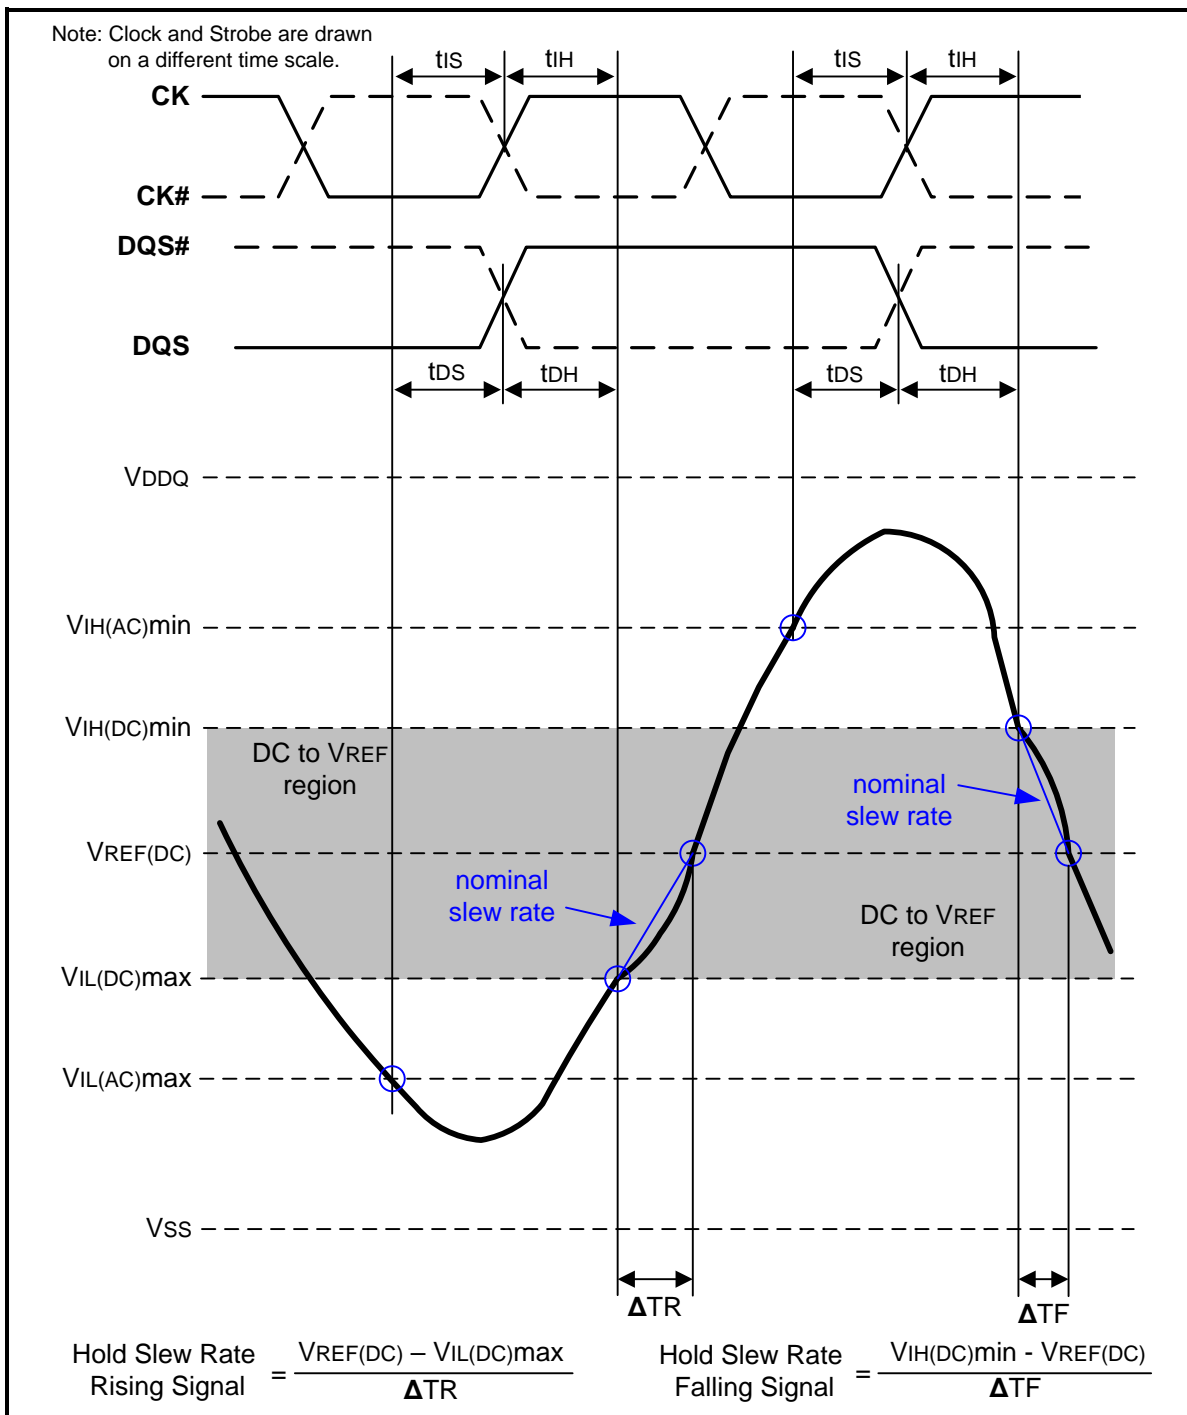
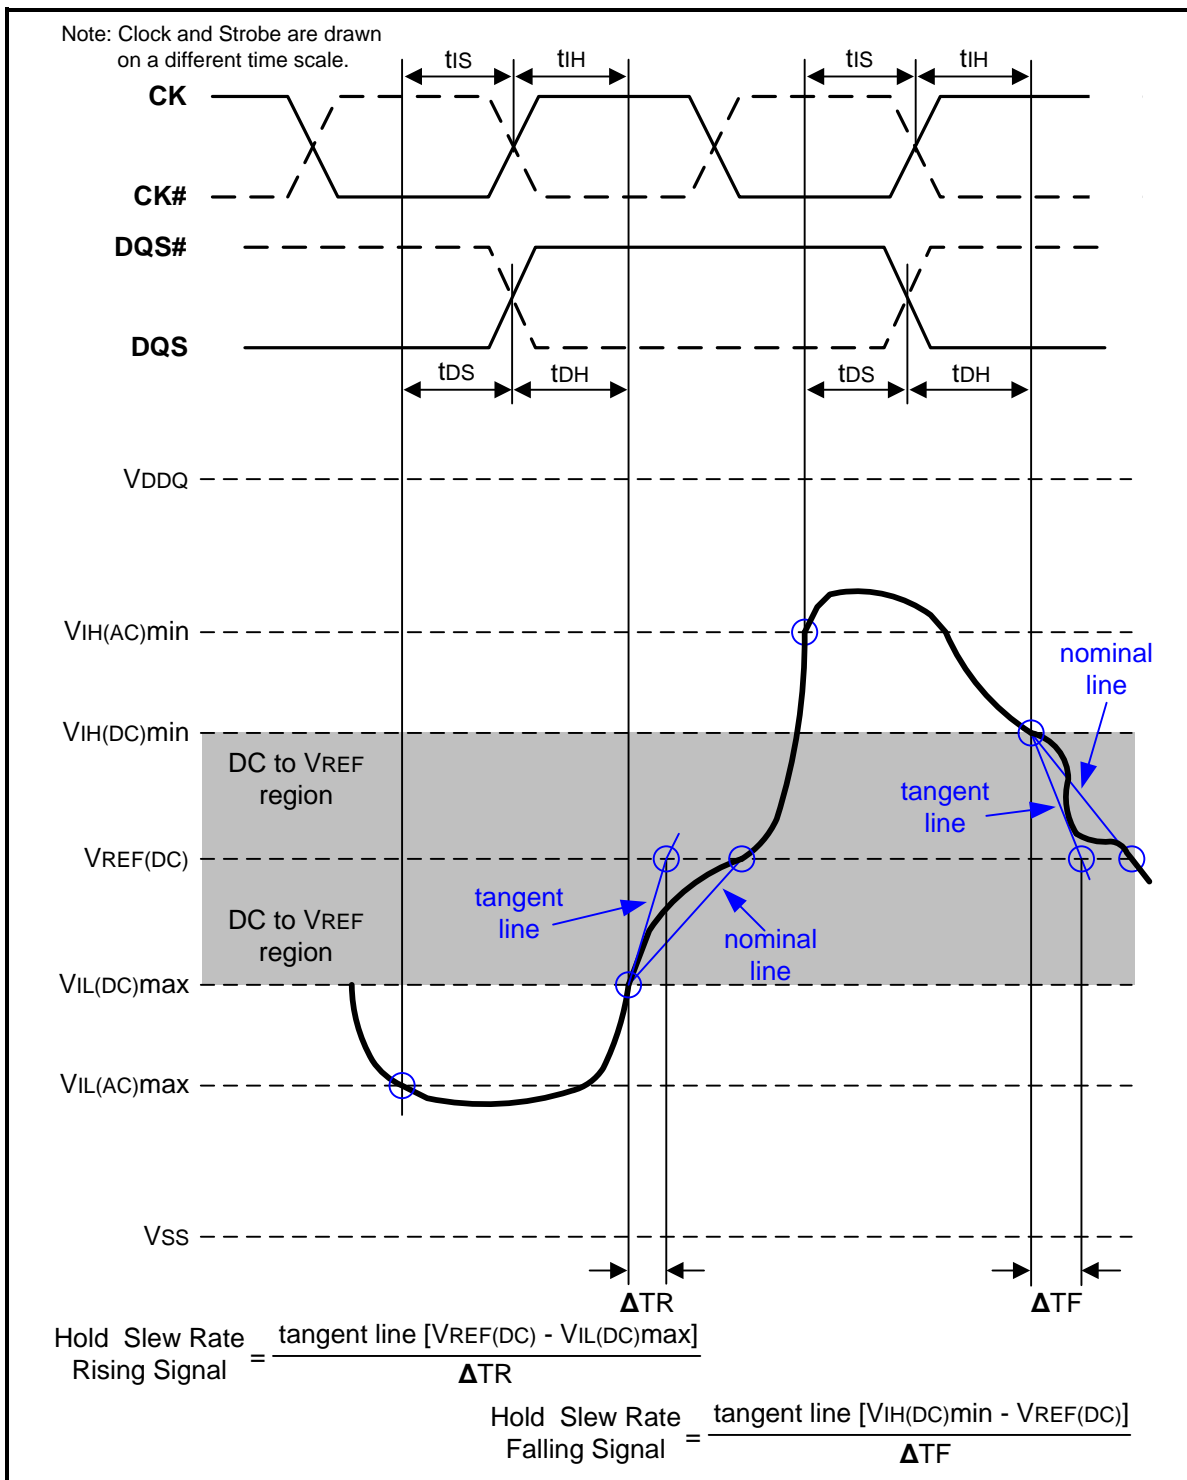

Figure 108 – Illustration of nominal slew rate for hold time t_{DH} (for DQ with respect to strobe) and t_{IH} (for ADD/CMD with respect to clock)
Figure 110 – Illustration of tangent line for hold time tDH (for DQ with respect to strobe) and tIH (for ADD/CMD with respect to clock)
Hold (t_{IH}) nominal slew rate for a rising signal is defined as the slew rate between the last crossing of $V_{IL}(\text{DC})_{\text{max}}$ and the first crossing of $V_{REF}(\text{DC})$. Hold (t_{IH}) nominal slew rate for a falling signal is defined as the slew rate between the last crossing of $V_{IH}(\text{DC})_{\text{min}}$ and the first crossing of $V_{REF}(\text{DC})$. If the actual signal is always later than the nominal slew rate line between shaded 'DC to VREF(DC) region', use nominal slew rate for derating value (see Figure 108). If the actual signal is earlier than the nominal slew rate line anywhere between shaded 'DC to VREF(DC) region', the slew rate of a tangent line to the actual signal from the DC level to $V_{REF}(\text{DC})$ level is used for derating value (see Figure 110).
Hold (tDH) nominal slew rate for a rising signal is defined as the slew rate between the last crossing of VIL(DC)max and the first crossing of VREF(DC). Hold (tDH) nominal slew rate for a falling signal is defined as the slew rate between the last crossing of VIH(DC)min and the first crossing of VREF(DC) (see Figure 108). If the actual signal is always later than the nominal slew rate line between shaded 'DC level to VREF(DC) region', use nominal slew rate for derating value. If the actual signal is earlier than the nominal slew rate line anywhere between shaded 'DC to VREF(DC) region', the slew rate of a tangent line to the actual signal from the DC level to VREF(DC) level is used for derating value (see Figure 110).